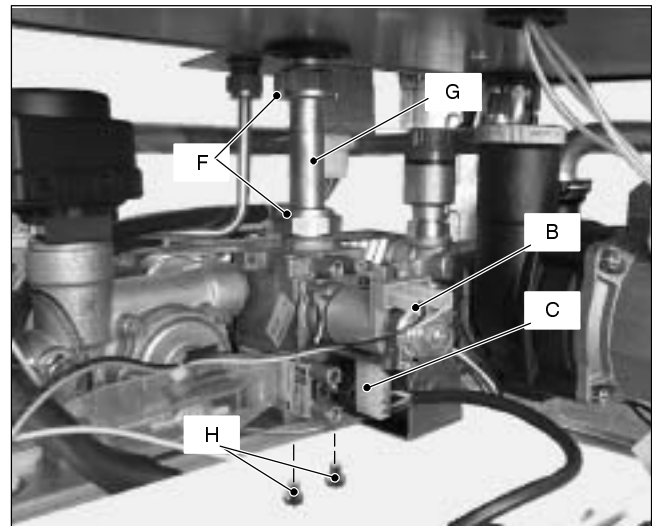

Fig. 48
- 2 Disconnect the connectors *B* (Fig. 48) from the modulating operator and measure the electrical resistance of the coil. Its electrical resistance value must be approx.  $80\ \Omega^*$ .
- 2 Disconnect the electrical connector *C* (Fig. 48).
- 2 Disconnect the connectors *B* and *C* (Fig. 48).